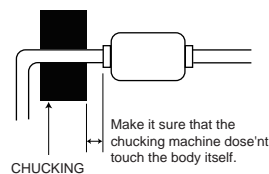

Fig.1
- (1) In case of lead forming, chuck the lead first and form by setting the body free shown in Fig.1.